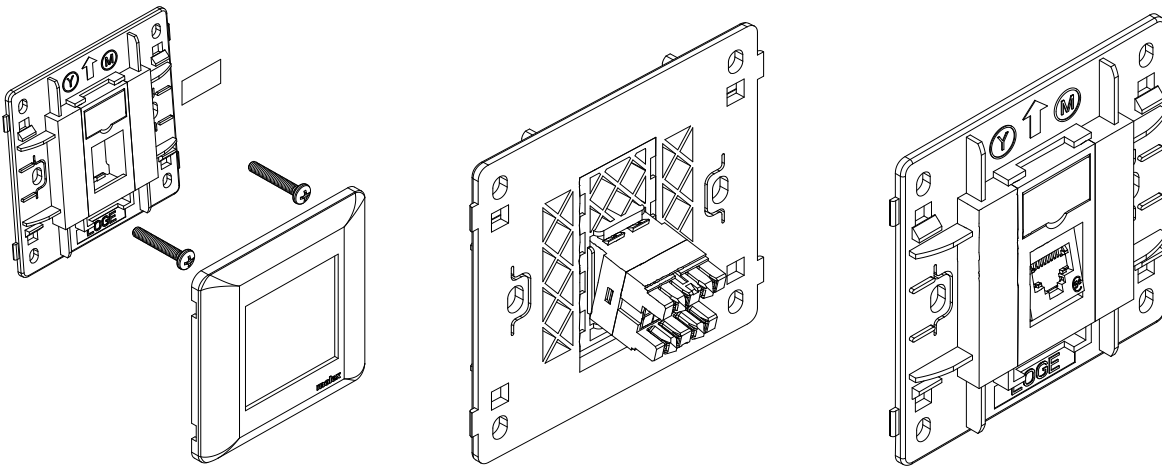

FIG. 1
2.2 ASSEMBLY INSTRUCTIONS FOR ALL THE WALL PLATES (FIG. 1, 2,3,4 & 5):